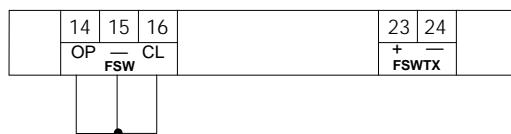

Fig. 4/A
N.B.: If opening safety devices are not connected, jumper inputs OP and FSW TX (Fig. 4).
N.B.: If closing safety devices are not connected, jumper inputs OP and FSW TX (fig. 4).